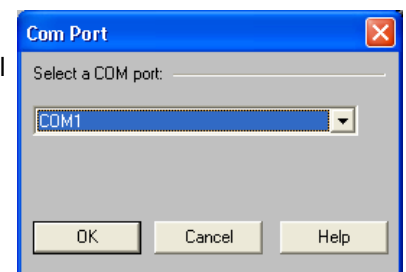

FIGURE 2-1: "COM Port" Dialog
- b) The "COM Port" dialog opens, as pictured in Figure 2-1.